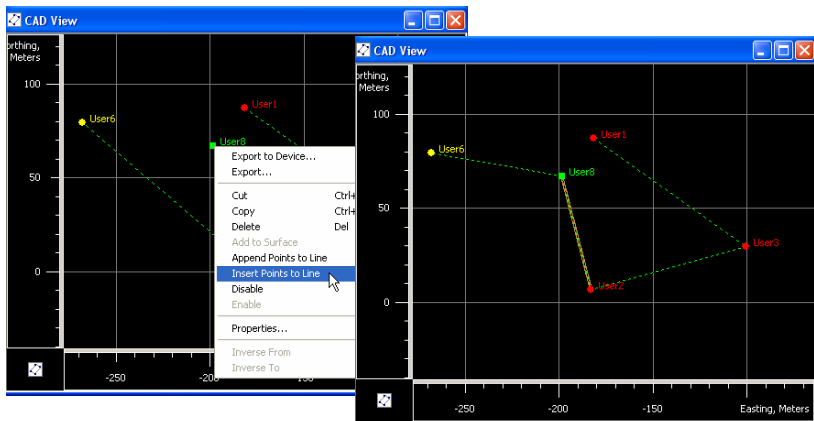

Figure 5-34. Example of Inserting Points to the Line
- Right-click an existing point in the Cad View and click **Insert Points to Line** on the pop-up menu (Figure 5-34).
The Cad View and *Linework* tab display new line segments from the start point of the selected segment to this point, and from this point to the end point of the selected segment (Figure 5-34).